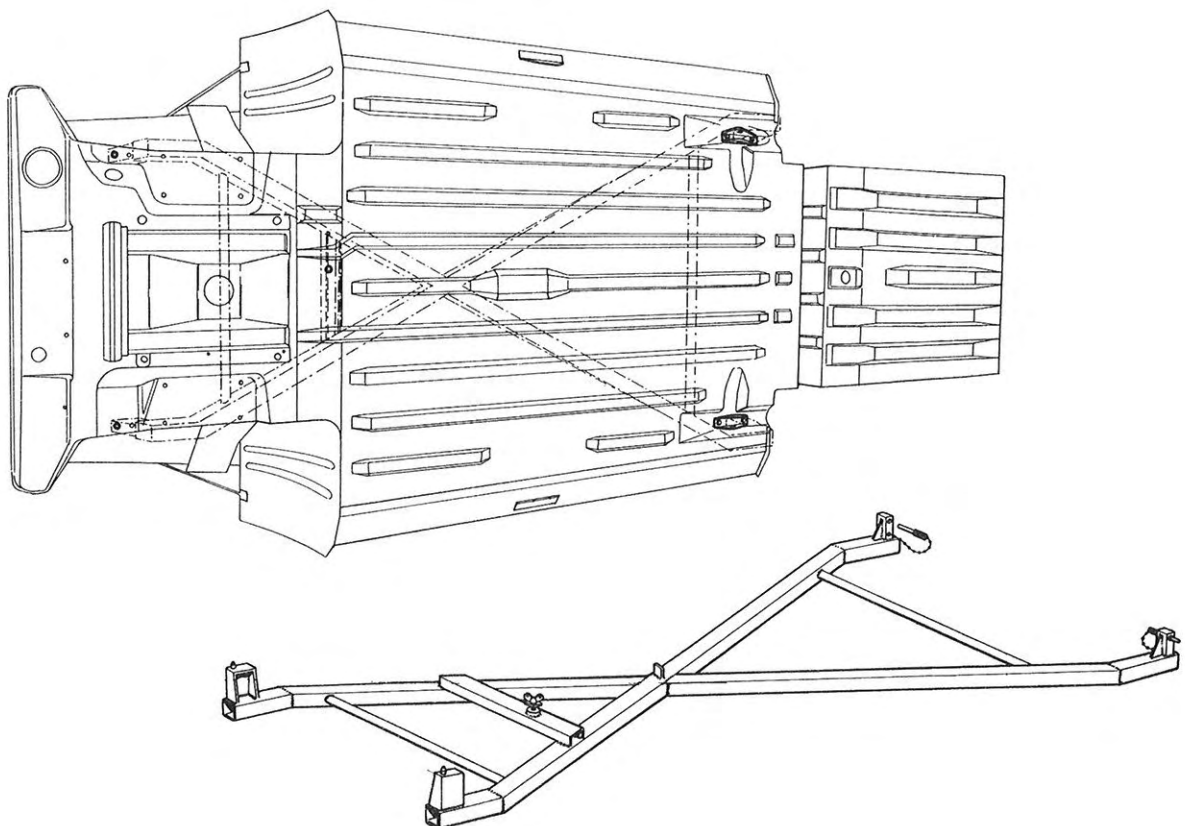

Fig. 9. Checking the body dimensions. Tool Saab 93-150
3. Fit the new front floor plate, preferably using a jack and tool Saab 93-150, see Fig. 9. The tool is applied to the holes for the rear side links under the body after removing links. Fit the two front attachment holes for the stabilizer bearings in the front floor plate to the pins on the tool and lift the floor plate into its correct position.
inspected. If the rear axle attachments are deformed, the axle must be dismantled, see Chapter 6, "Axles and suspension", and the middle bearing attachment adjusted. Remove also the front, lower spring arms and stabilizer from the attachment in the body, then fit tool 93-150 for checking the attachment points of the rear axle side links, see Fig. 9. The middle bearing attachment must also lie on the centerline of the car exactly between the two rear side link brackets.